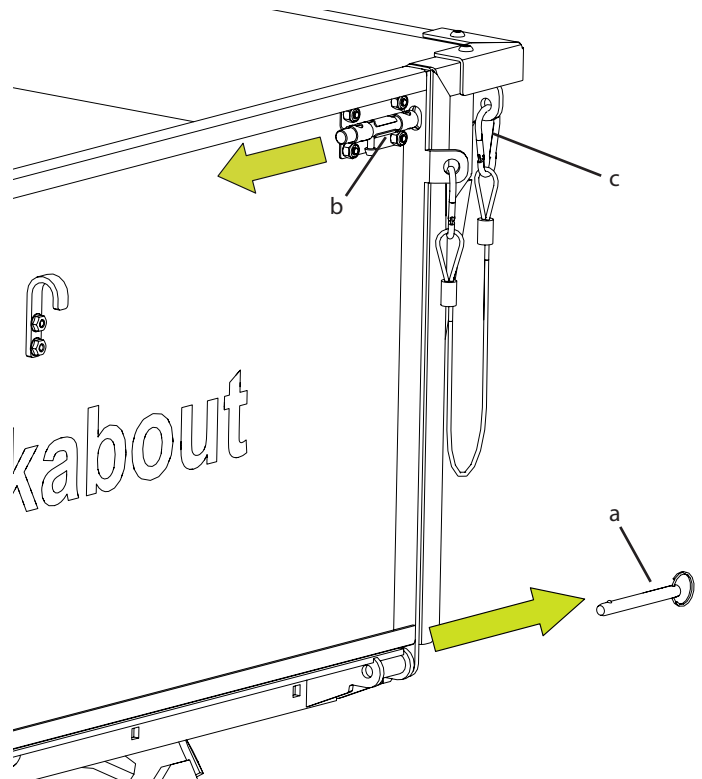

Figure 2: Tailgate Removal
- The tailgate can be removed completely by removing the hinge pins (a), sliding the latch bolts (b), and unclipping the cables (c) (Figure 2).